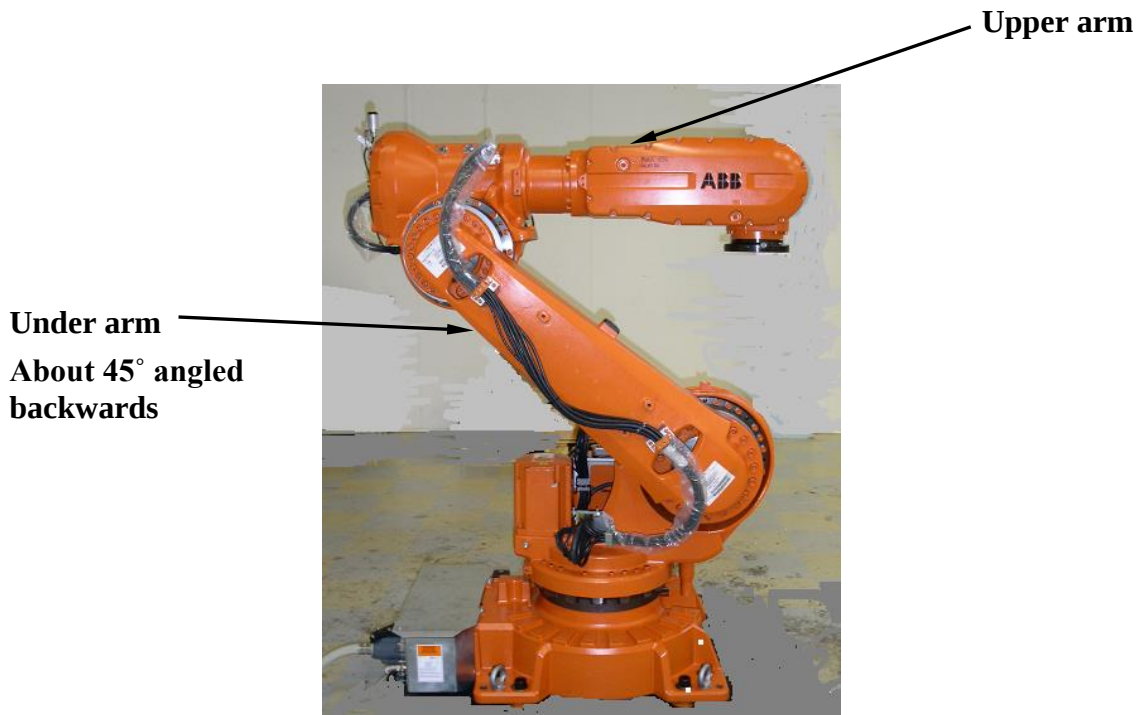

Figure 9. Approved Lift position - IRB 6620, 5710 and 5720
- The robot's upper and lower arms must be positioned as shown in figure 9. Accordingly, the under arm must be directed approximately 45 degrees backwards and the upper arm must be horizontal or somewhat downwards.